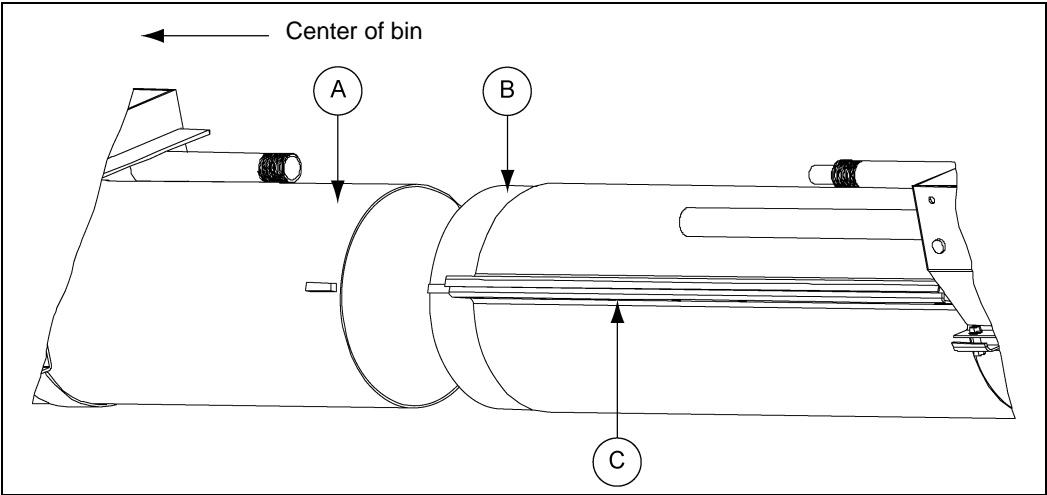

Figure 4I
1. On bins > 60' in diameter, loosen or unbolt the 30" connecting band from the outer unload tube assembly (B). (See Figure 4I.)